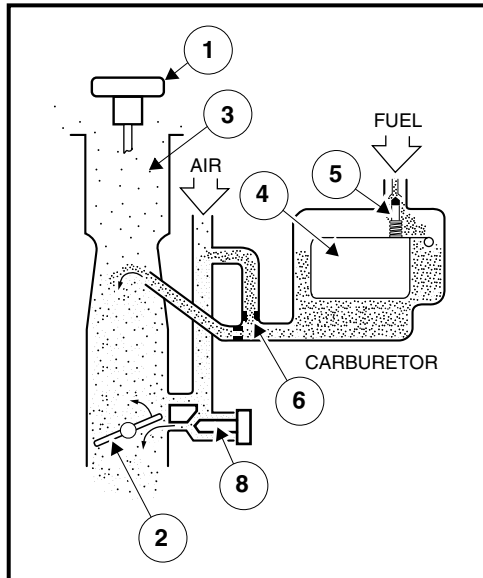

Figure 14-4 Choke System
The choke system aids in starting the engine in cold weather. When starting a cold engine, the choke cable handle (1) (Figure 14-4, Page 14-5) is pulled. This restricts the air flow to the venturi, causing a very high vacuum that draws fuel into the venturi at a high rate and thus creates a “fuel rich” mixture. The choke handle is pulled until the engine starts, and then released when the engine begins to run smoothly.
Fuel is supplied to the carburetor float chamber by an external impulse pump that draws fuel from the fuel tank and through the fuel filters (**Figure 14-4, Page 14-5**). The fuel then passes through the inlet valve (5) and into the float bowl. The fuel entering the bowl causes the float (4) to rise until it shuts off the inlet valve, preventing the fuel from exceeding a level predetermined by the float level setting.